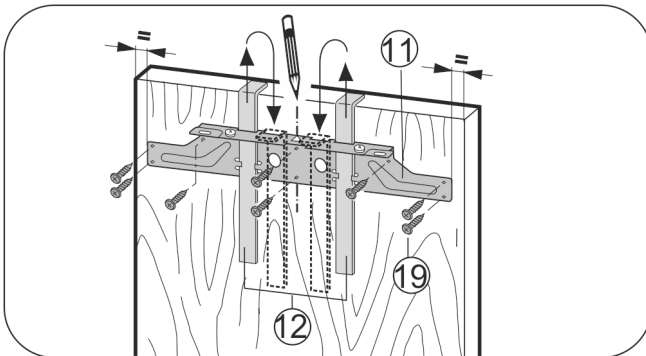

Fig. 29
- Hang the crosspiece Fig. 29 (11) on the inside of the unit door using the fitting aids Fig. 29 (12).
- Align the crosspiece Fig. 29 (11) to the middle of the door.
- Secure the crosspiece Fig. 29 (11) with at least 6 screws Fig. 29 (19).
- Secure the crosspiece Fig. 29 (11) with 4 screws Fig. 29 (19) at the edge.
- Lift up fitting aids Fig. 29 (12), turn round and insert into the adjacent openings.